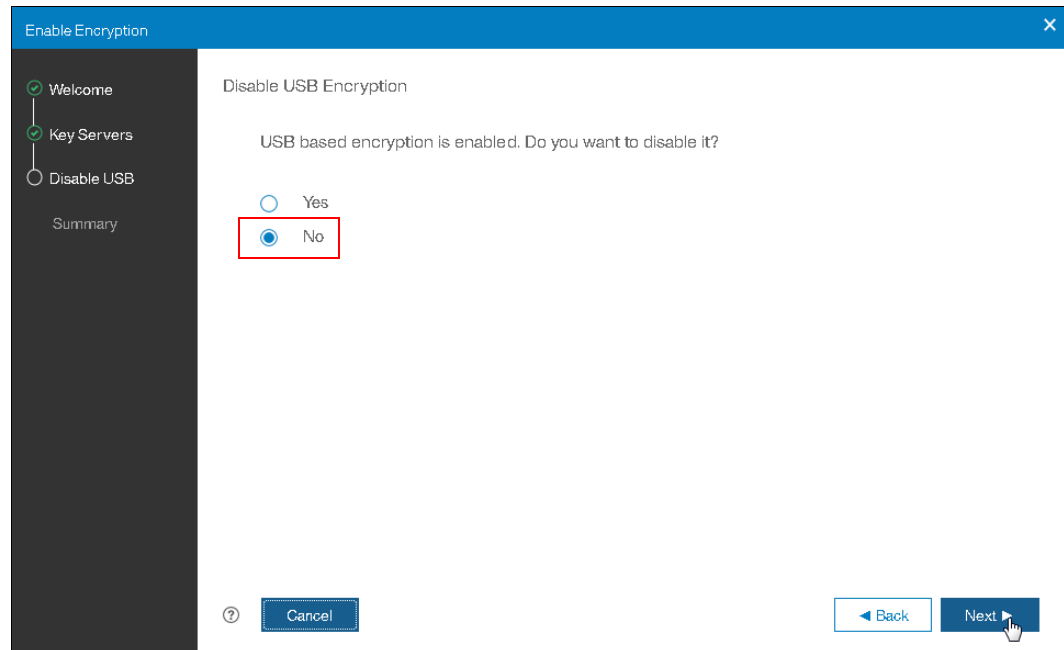

Figure 7-57 Keeping the USB encryption enabled during SkLM configuration
21. Select **No** to keep USB flash drive encryption active. Then, select **Next**, as shown in Figure 7-57.